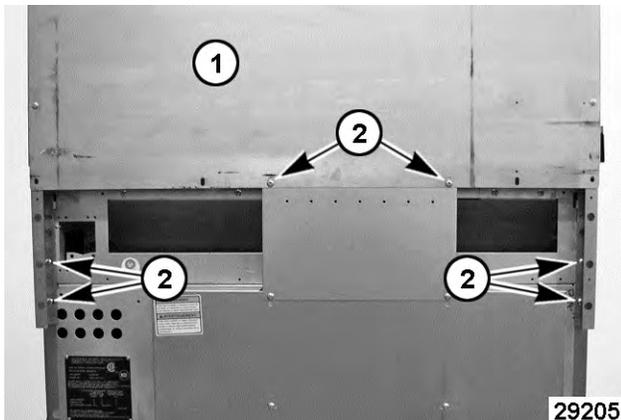

Fig. 5
1. Remove screws (2, Fig. 5) securing backsplash (1, Fig. 5) to frame.